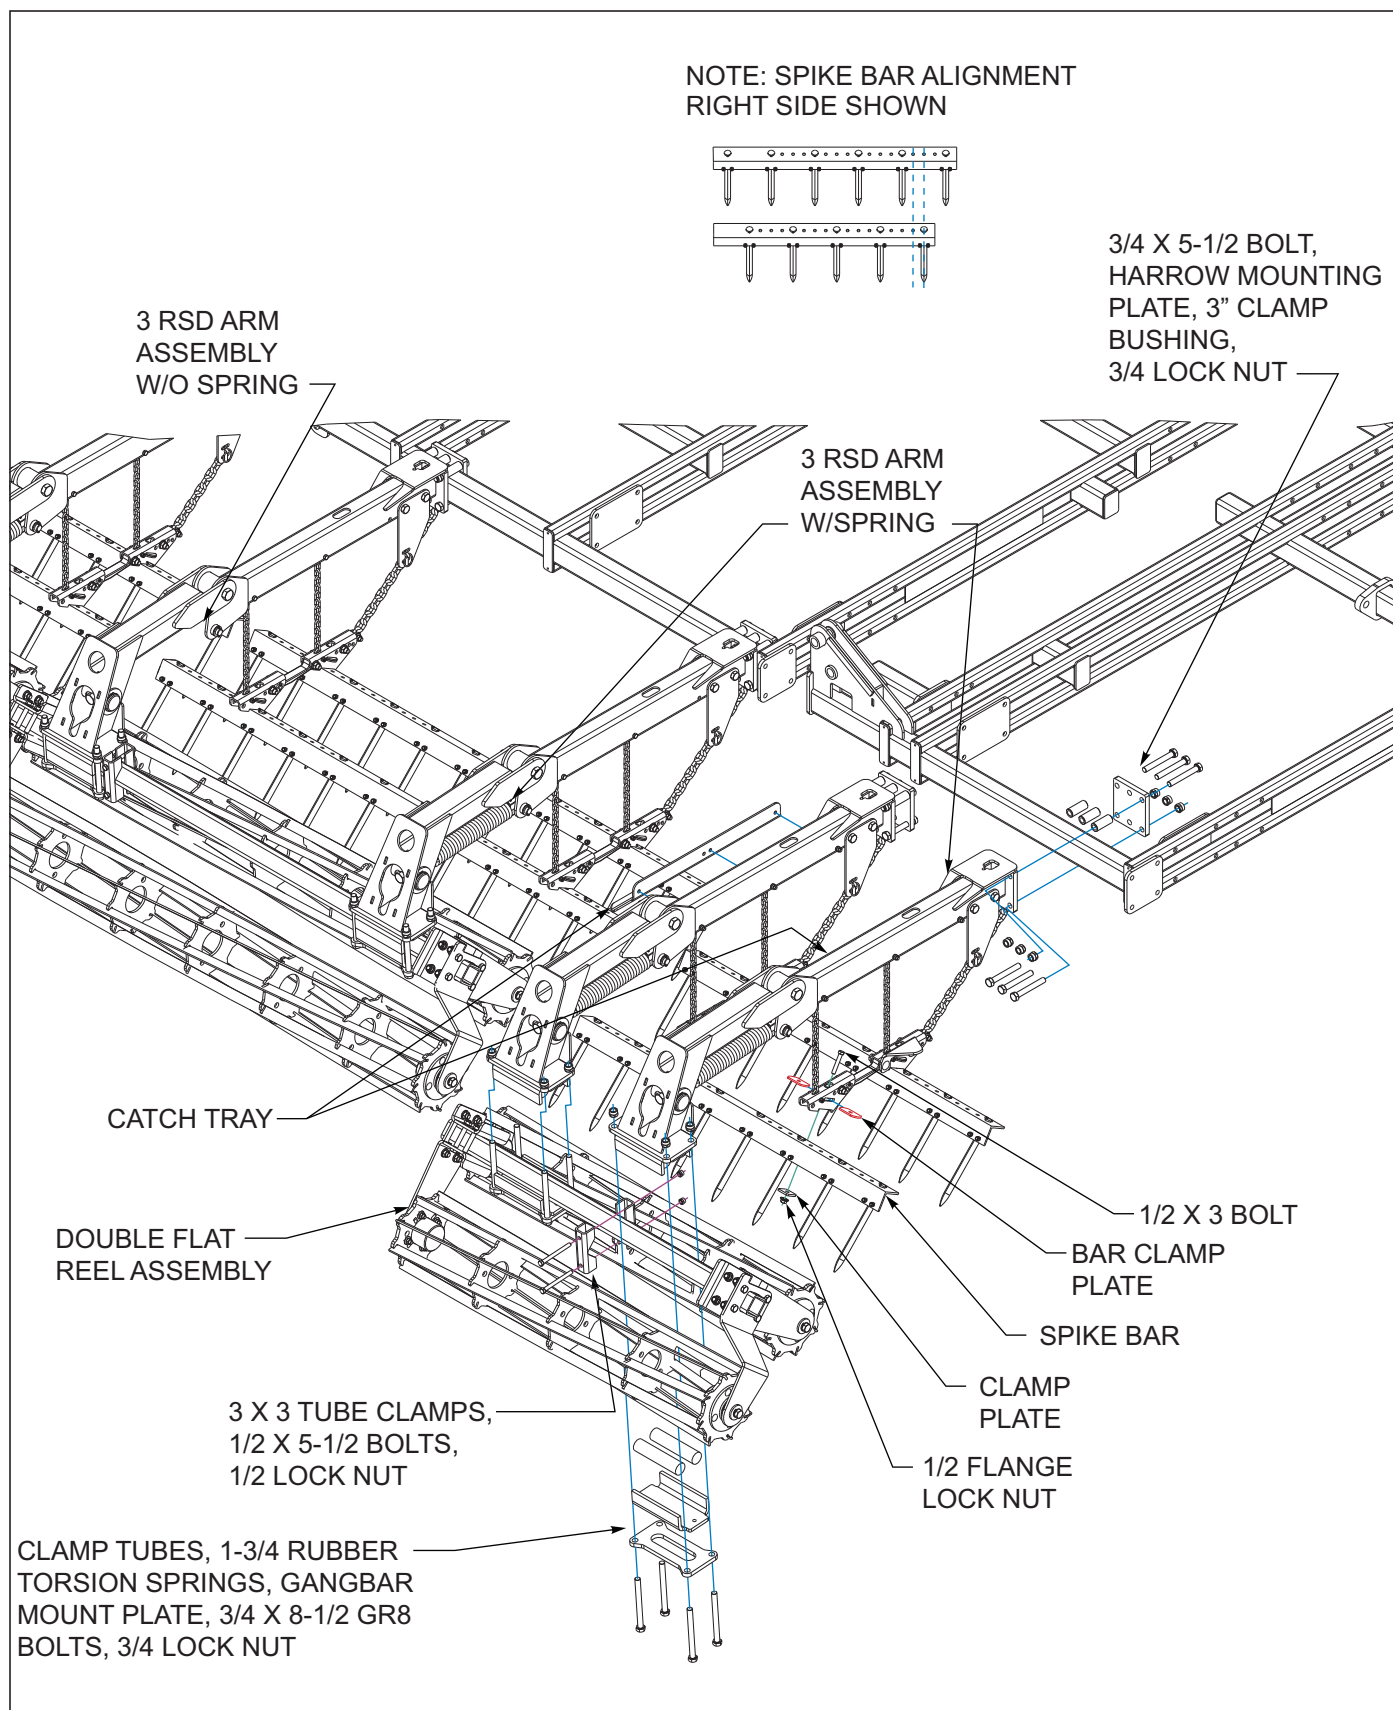

Figure 3-34: 2RS DBL Flat Reel Installation
2. Refer to Note: spike bar alignment *See Figures 3-34* for proper alignment of spike bar assemblies. Be sure they are aligned properly on both right and left side of each section.